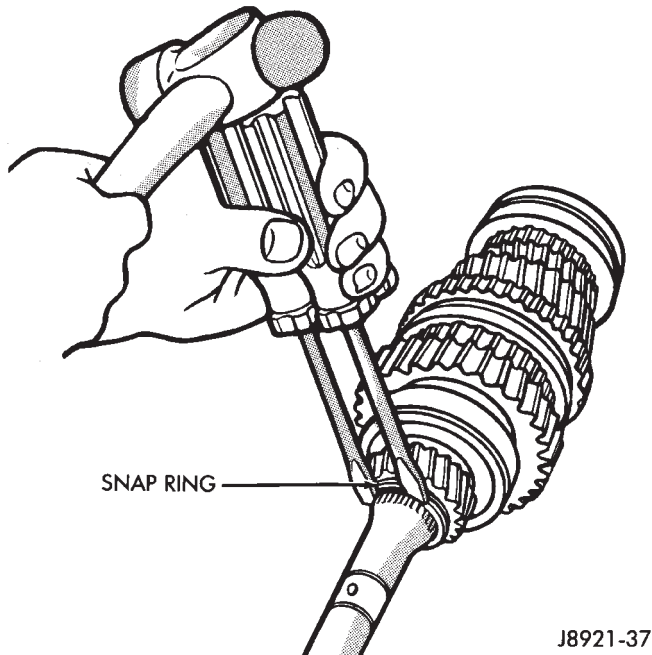

Fig. 102 Remove Fifth Gear Snap-ring
- (3) Remove output shaft fifth gear snap ring with two screwdrivers (Fig. 102).